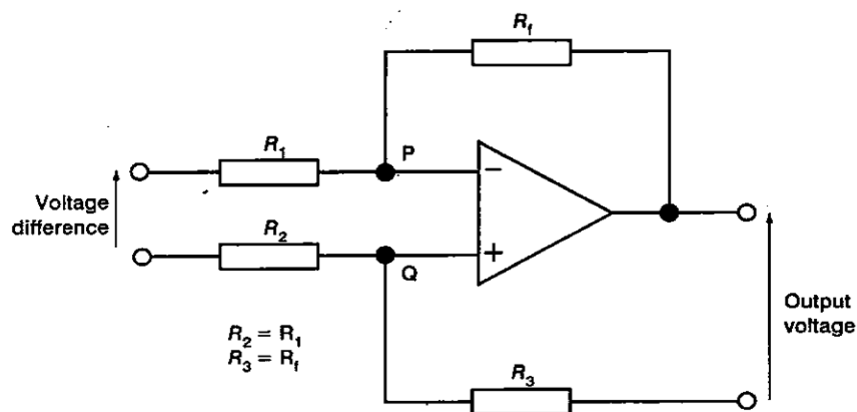

Figure 8.6 A balanced – input amplifier
3) Balanced input amplifier, see Figure 8.6.